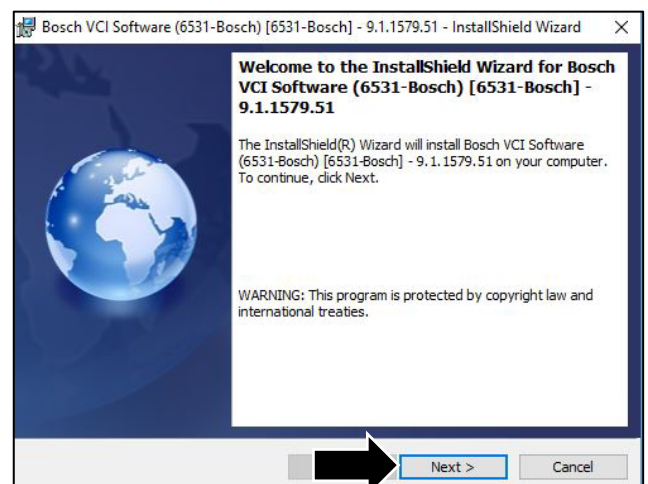

Figure 3
4. In the InstallShield Wizard window, click "Next" (refer to Figure 3).